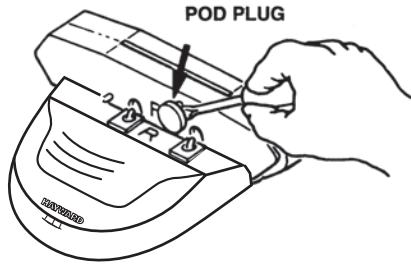

Figure 9
- 1. Check the condition of the “shoes, wings and flaps” periodically.** The shoes and wings have wear indicators on their sides and should be checked occasionally to determine if they need replacing. The shoe wear indicator is a line on the side of the shoe that appears as a difference in texture. When this texture difference is no longer visible at the bottom of the shoe when viewed from either side, the shoes must be changed (see *Figure 8*). Also on the side, the wing wear indicator is a horizontal line which has three (3) vertical lines above it. When you can no longer see the horizontal line, the wings must be changed (see *Figure 9*). The Hayward Tune-Up Kit is available from your dealer. Shoes, wings and flaps may also be purchased separately.
- a) Using a screwdriver, remove the plugs from both pods (see Figure 9).